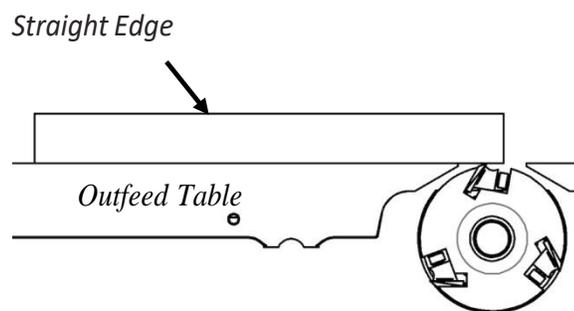
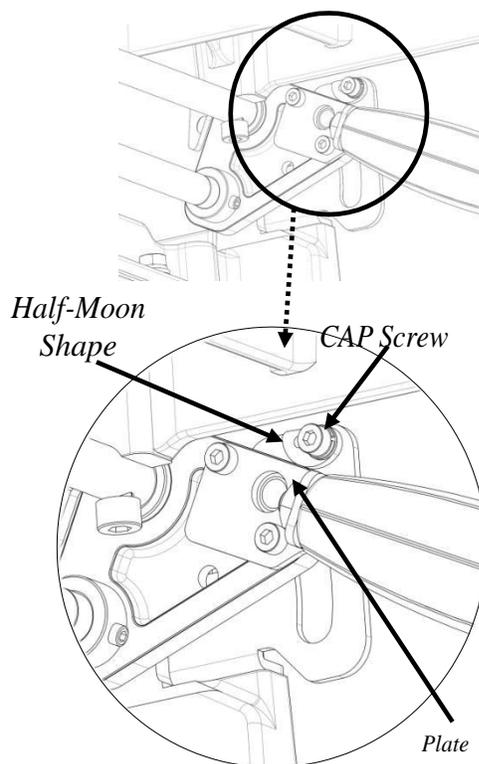

Figure 30: Checking Outfeed Table
FIG. 32: Back View of Outfeed Table Adjustment
STEP 2: Place a straight edge on the outfeed table halfway over the cutterhead as shown in **FIG. 30**. Rotate drive belt, if necessary, to bring an insert knife to top-dead-center for referencing to straight edge.
STEP 4: Loosen cap screw on the back (inside) of the outfeed table adjustment lever as shown in **FIG. 32**. Lower the outfeed table to adjust the straight-edge level with the top dead center of the knife inserts as in **FIG. 30**.